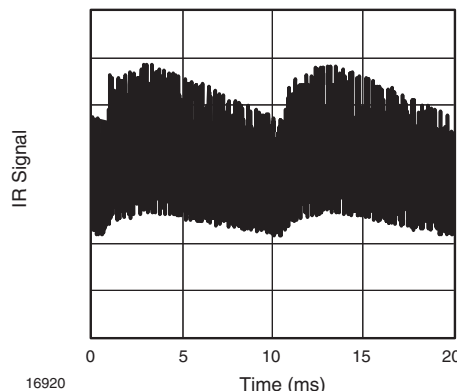
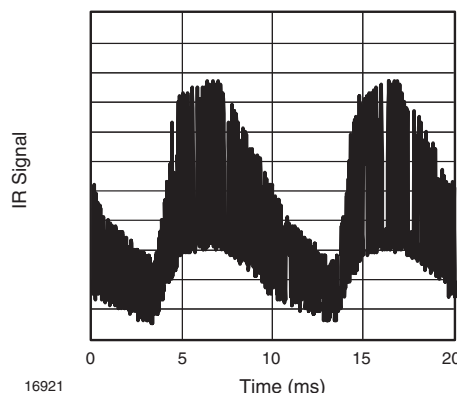

Fig. 13 - IR Signal from Fluorescent Lamp with Low Modulation
Fig. 14 - IR Signal from Fluorescent Lamp with High Modulation
- Strongly or weakly modulated noise from fluorescent lamps with electronic ballasts (see fig. 13 or fig. 14)